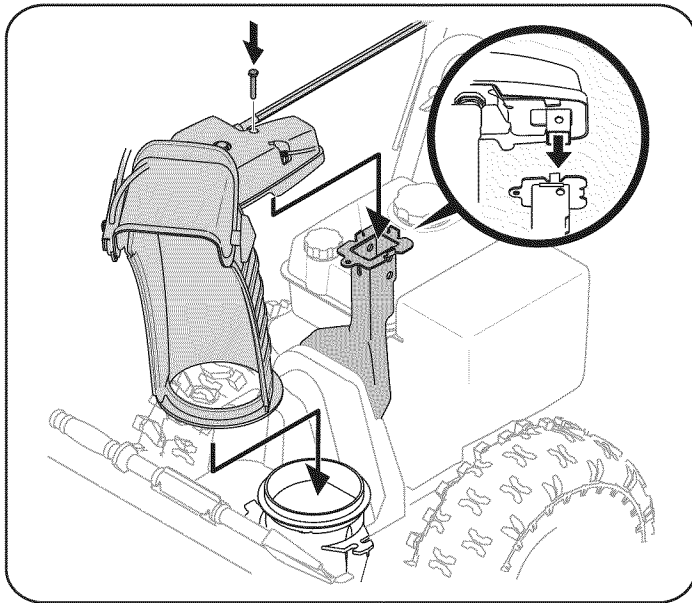

Figure 4
- Place chute onto chute base and ensure chute control rod is positioned under handle panel. Install hex bolt previously removed but do not secure with wing nut at this time. See Figure 4.